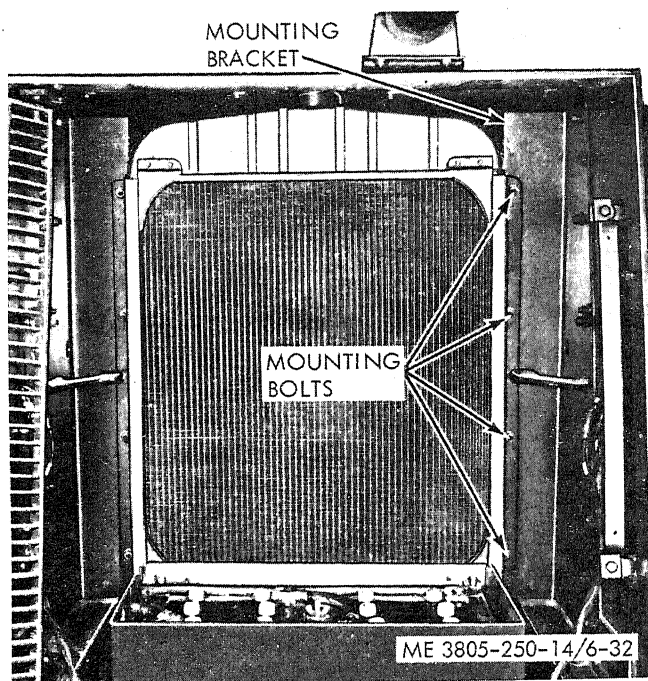

Figure 6-32. Radiator, removal and installation.
- (1) Remove the engine side panels and hood (para 4-51).
- (2) Drain the cooling system.
- (3) Remove four bolts, nuts, and lockwashers securing the sides of the radiator to the support (fig. 6-32).
- (4) Disconnect the clamps securing the upper radiator hose to the water manifold and the lower radiator hose to the water pump housing.
- (5) Lift and guide the radiator from the loader.